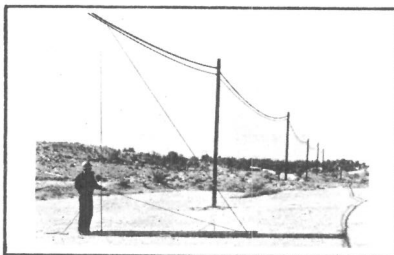

FIGURE 25.
17.06 Tie the near end of the handline to the bottom rung of the ladder, using a clove hitch and two half-hitches. Take the other end of the handline to the top of the ladder. Check the handline where it passes over the strand to be sure it does not cross over itself, and pass the free end behind the second rung from the top, and then out on the top side of the ladder. See Figure 25.